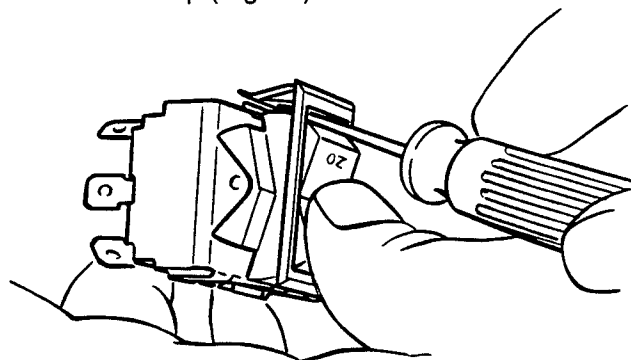

Figure 30. Clean-Off-On Switch Removal
- B. Grasp switch from inside freezer. Then remove retainer clip using a small screwdriver (Fig. 30).